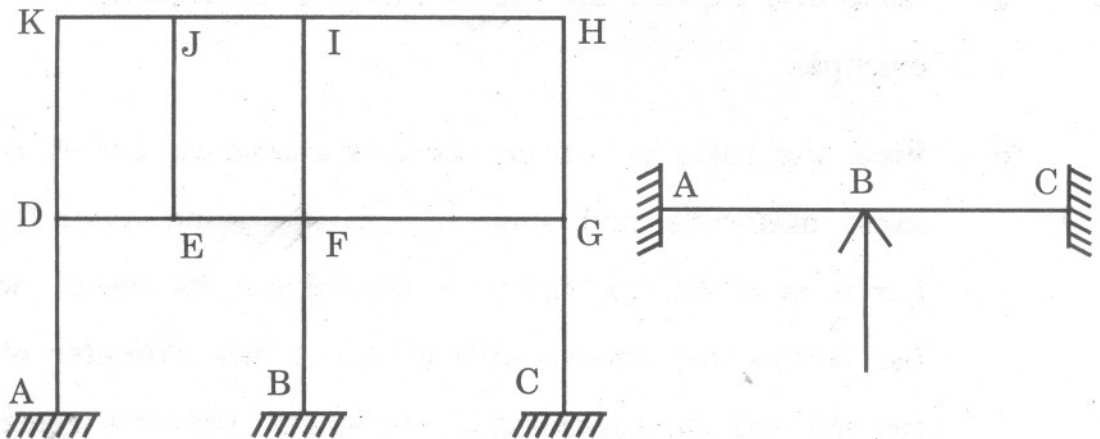

Fig. 1
1. (a) Determine static and kinematic degree of indeterminacy for the structures shown in Fig. 1. [6]